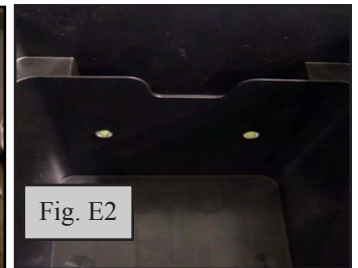

Fig. E2
2. Insert lens from inside storage box. (Fig. E2)